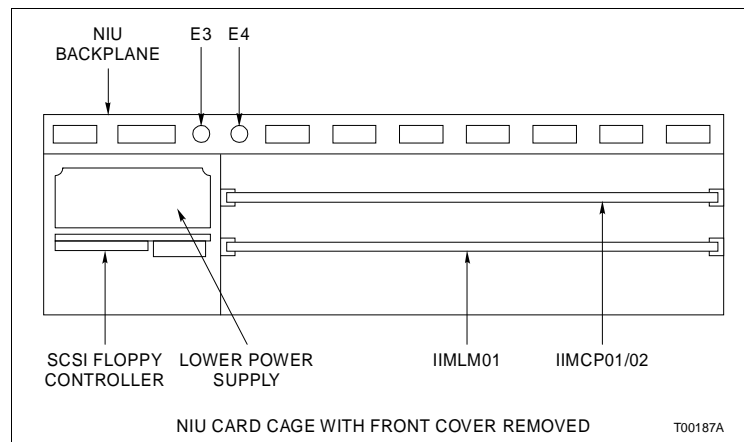

Figure PR47-2. NIU Card Cage with Covers Removed
- 7. Unplug the IIMLM01 and IIMCP01 or IIMCP02 modules from the NIU backplane. They do not have to be pulled out all the way (Fig. PR47-2).